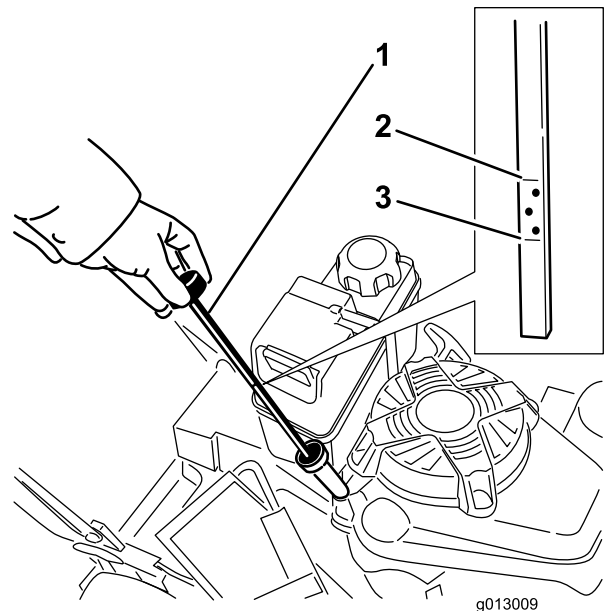

Figure 12
Before each use, ensure that the oil level is between the Add and Full marks on the dipstick (Figure 12).
3. Remove the dipstick by rotating the cap counterclockwise and pulling it out (Figure 12).
6. Read the oil level on the dipstick (Figure 12).